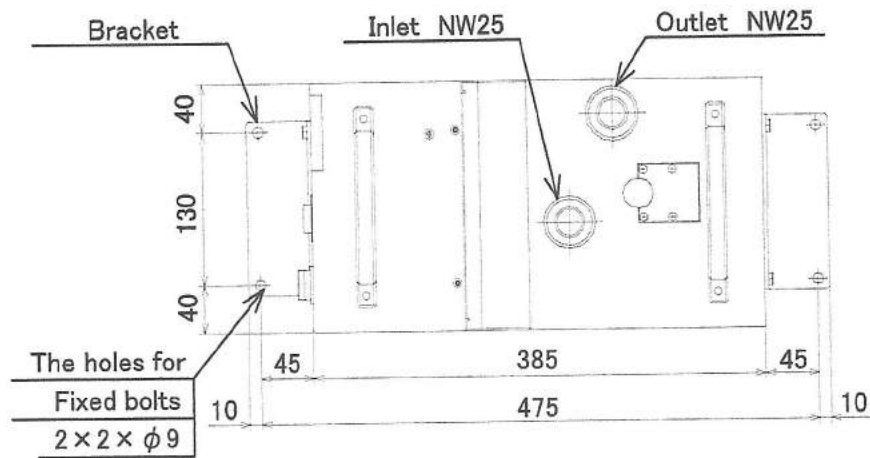
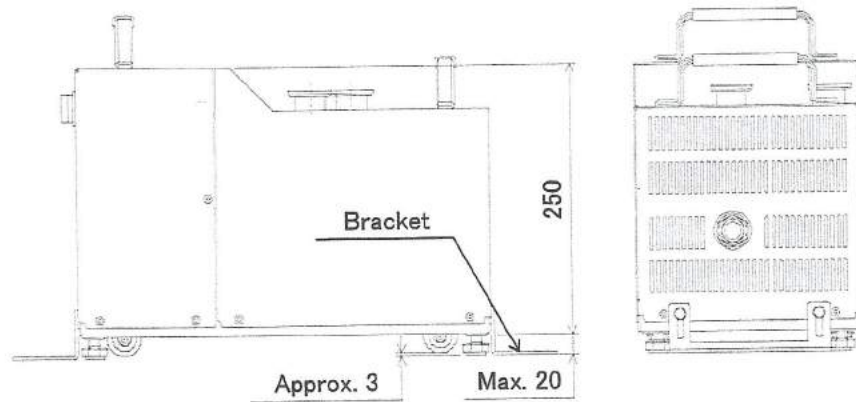

Fig.4.1 Pump fixation position
Fig.4.2 How to fix the pump with casters and adjusters
*Please fix the pump with appropriate bracket. (Fig.4.1, Fig4.2)